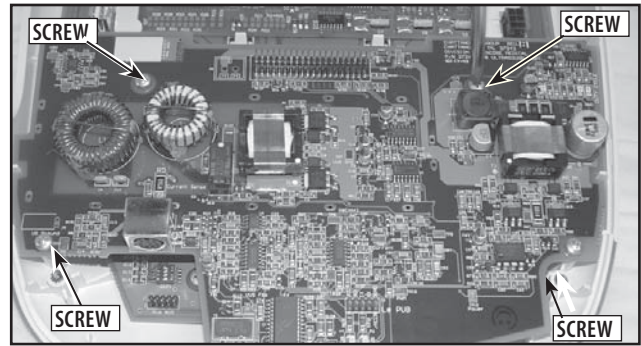

FIGURE 6.12
2. With #1 Phillips screwdriver remove the 4 screws securing the Ultrasound Board to the unit. **Refer to Figure 6.12.**